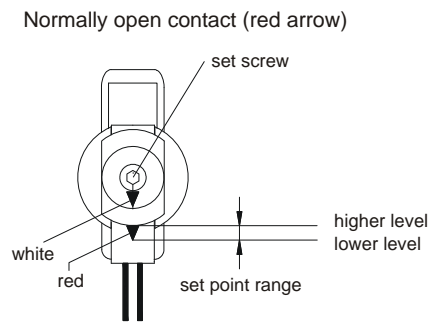
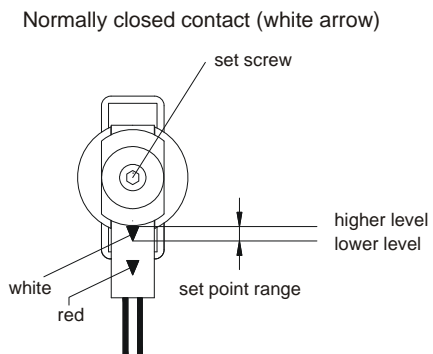

Fig. 15
Fig. 16
- Subsequently loosen the locking screw (hexagon socket screw size 2.5 for the brass and stainless steel version and cheese head screw for the plastic version) and move the switching unit until the red arrow for the desired normally open contact (→ Fig. 15) or the white arrow for the normally closed contact (→ Fig. 16) is visible at the entry of the switching unit guide.